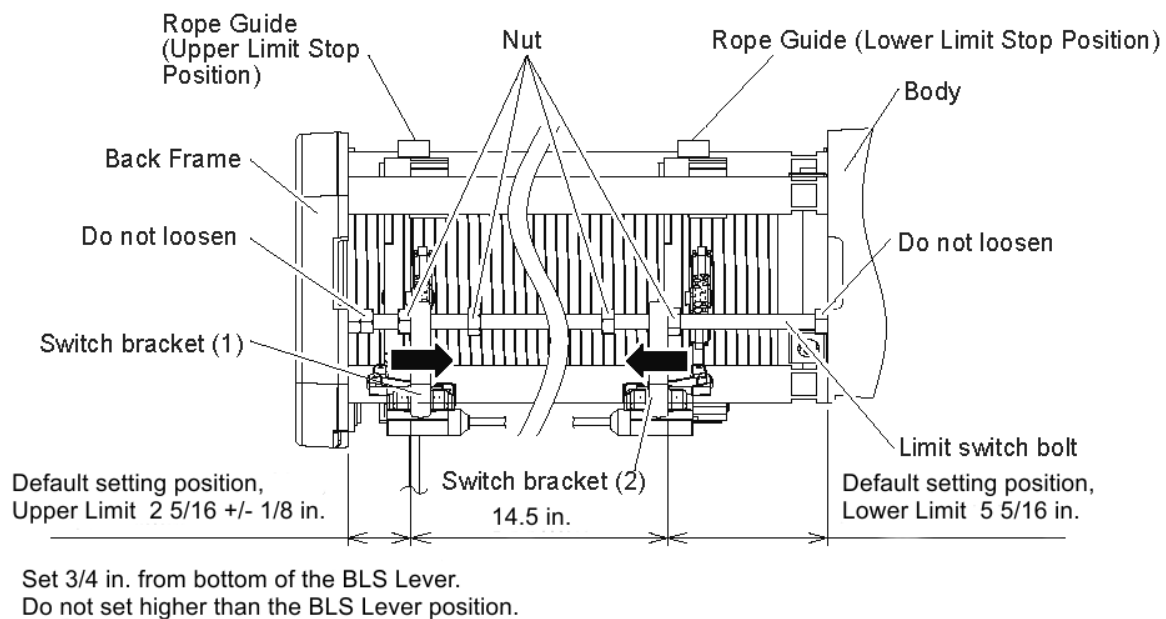

Figure 3-20 Hoist Upper and Lower Limit Switch (ULLS)
- 1) Referring to **Figure 3-20**, loosen the nut attached to the limit switch bolt, and adjust the position of the switch mounting brackets. * Moving the switch brackets by 11/32 inch (8.9 mm) (1 pitch of the Rope Drum) moves the Upper Limit Stop Position (or Lower Limit Stop Position) by 4 15/16 inch (125 mm) (1 role of the Rope Drum).
- 4) Upper side: Attach the bracket so that the distance from the end surface of the Back Frame and the left end surface of the switch bracket (1) can be not less than 2 13/16 inch (72 mm).
- 5) Lower side: Attach the bracket so that the distance from the end surface of the body and the right end surface of the switch bracket (2) can be not less than 5 1/32 inch (135 mm).
- 6) After moving the switch brackets (1) and (2), fasten the switch brackets securely with nuts (tightening torque: 23.6 lbf-ft/32 N•m).